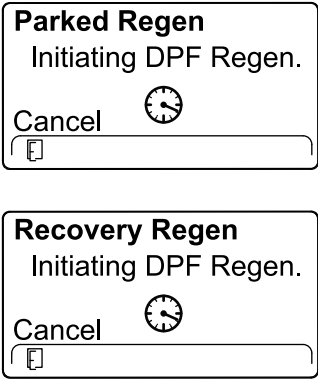

Figure 57
5. The InfoCenter displays the INITIATING DPF REGEN message (Figure 57).